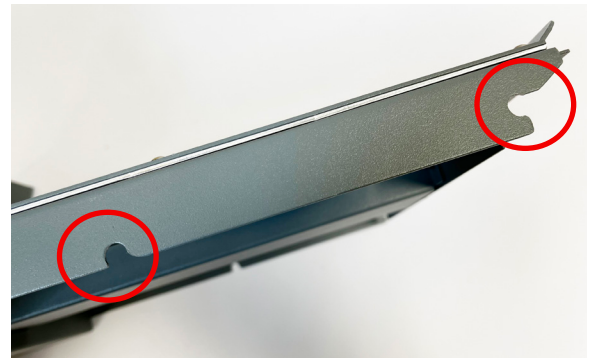

Fig. 1b
2. Locate mounting notches on the fold table (Fig. 1b) and the fold mounting pins on the unit (circled in red, Fig. 1c).